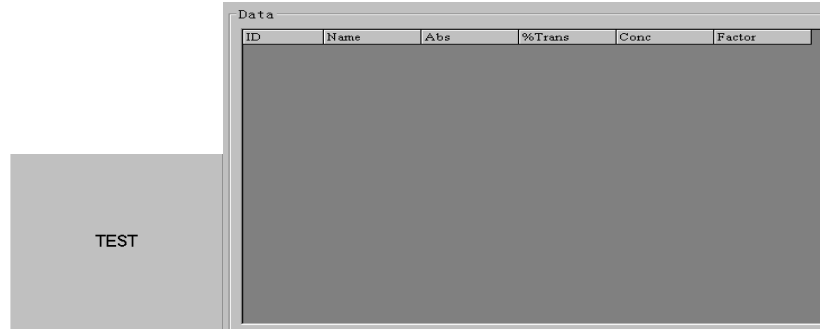

Figure-23 TEST Button and Data Table
- **TEST** Button: record the readout of a given sample (Figure-23).
- **Data Table:** record **ID**, **Name**, **Abs**, **%Trans**, **Conc**, and **Factor** related with the test (Figure-23)